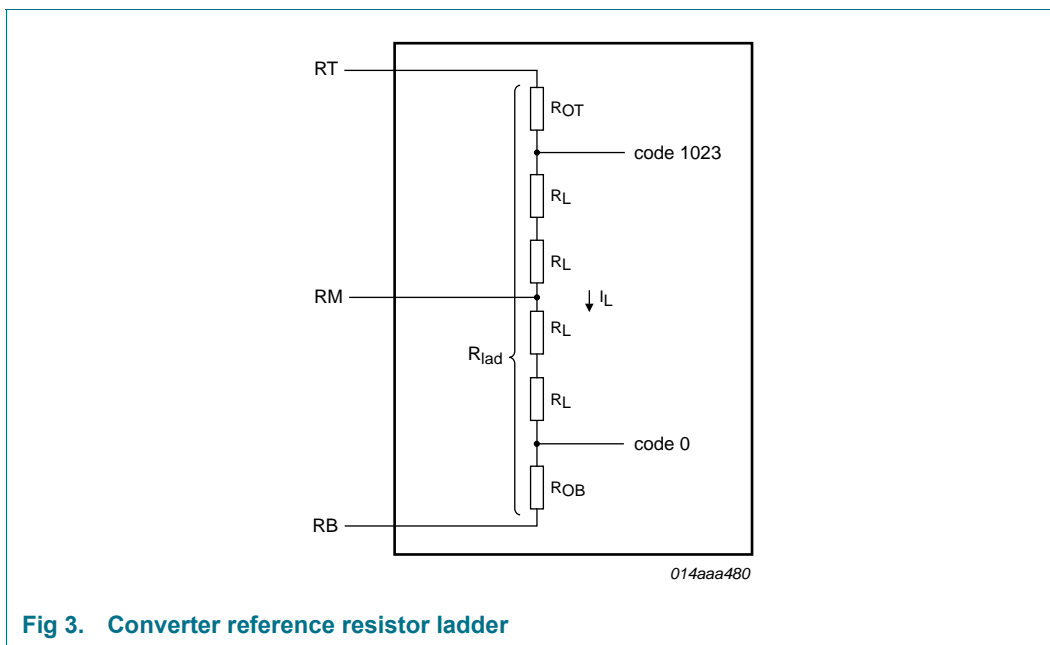

Fig 3. Converter reference resistor ladder
- [3] To ensure the optimum linearity performance of such a converter architecture the lower and upper extremities of the converter reference resistor ladder are connected to pins RB and RT via offset resistors  $R_{OB}$  and  $R_{OT}$  as shown in Figure 3.